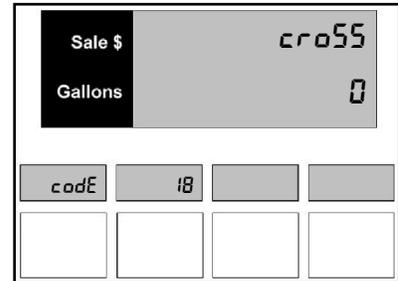

Figure 18.1 – Money Totals
1. Press the number **1** and **8**, then the **Mode** button on the keypad. The PPV display shows the dispenser is in Menu Code 18. If the dispenser has not been programmed since it came from the factory, the number 0 appears in the main display. This is the default setting as shown in *Figure 18.1*.